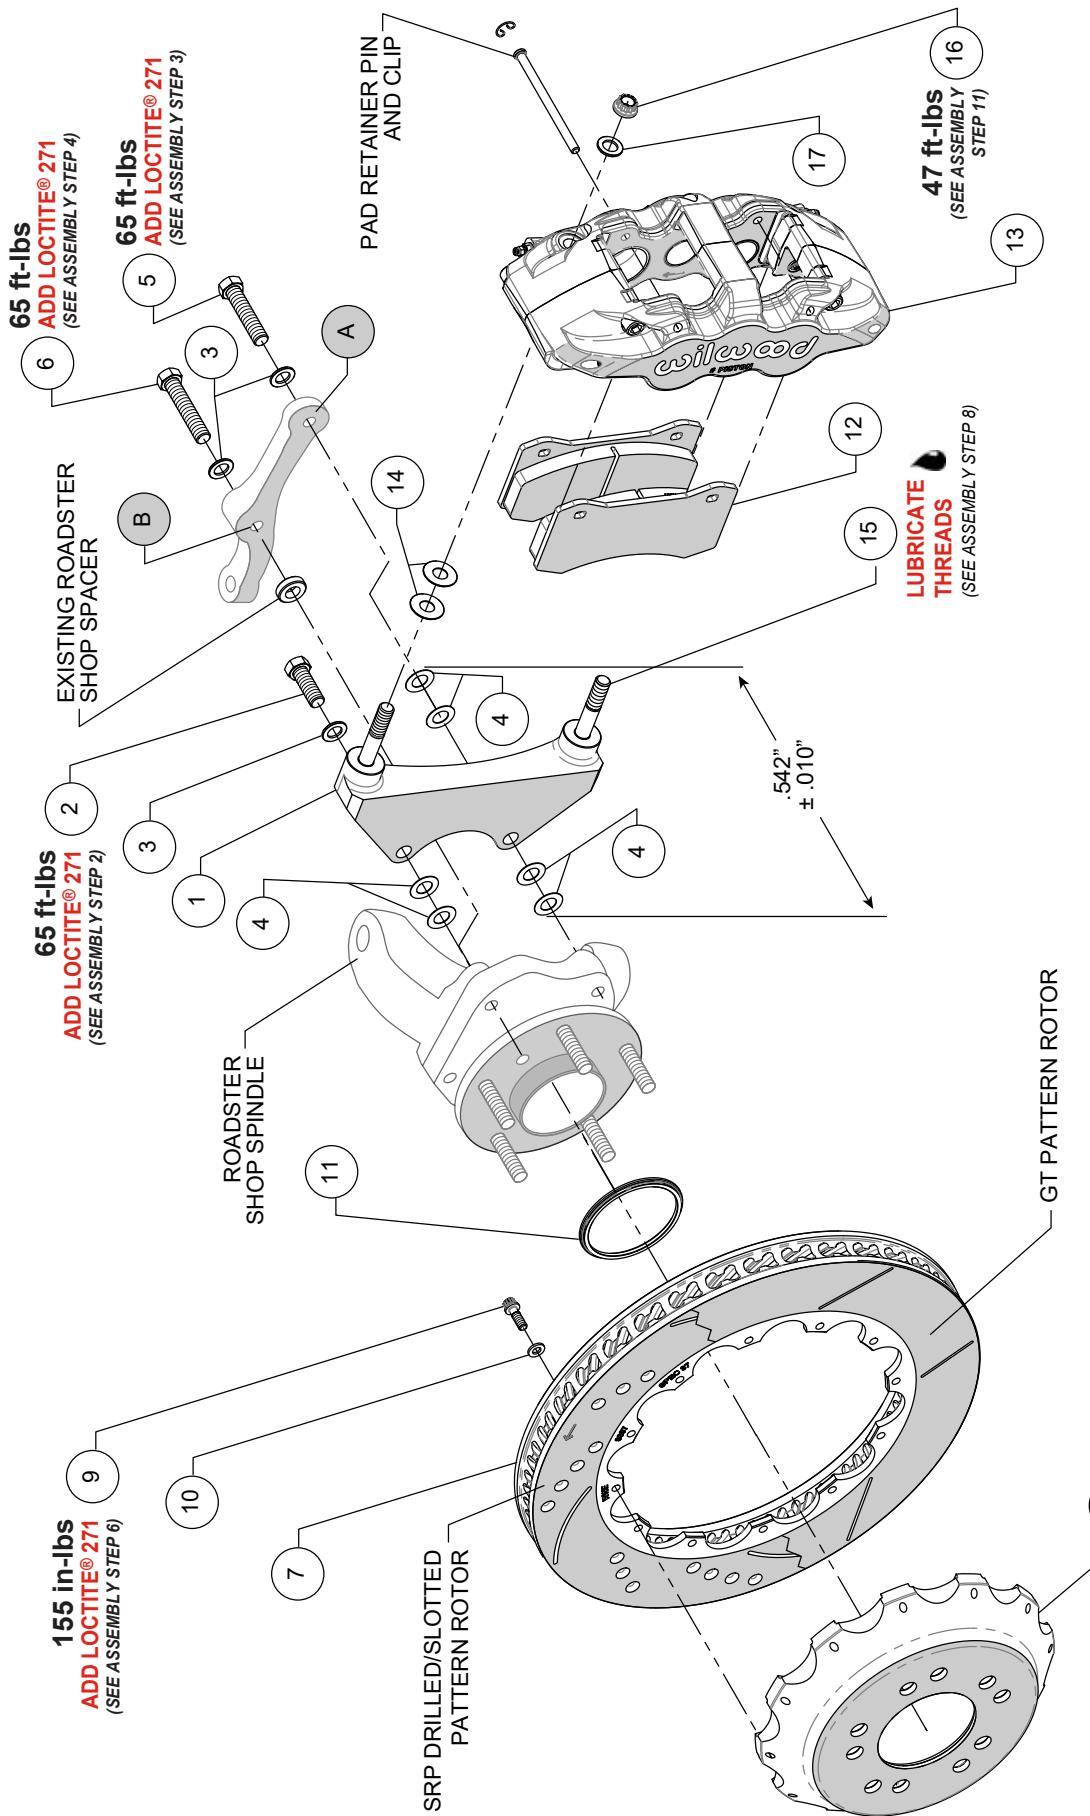
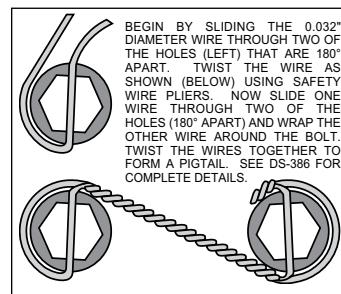

Figure 1. Typical Installation Configuration
Figure 2. Safety Wire Diagram
NOTE: Numbers in parenthesis refer to the parts list and Figure 1 on the preceding pages.
STEP 1 The caliper bracket (1) should initially be installed with clean, dry threads on the mounting bolts. Orient the bracket as shown in Figure 1 and Photo 1.
STEP 2 Install the bracket (1) at top upright hole using 1.25" long bolt (2) washer (3), and two .016" thick shims (4) between the bracket and upright, Figure 1.
STEP 3 Orient the steering arm, and identify the hole marked 'A', as shown in Figure 1. Install at bottom upright hole using 2.00" long bolt (5) and .063" thick washer (3), two .016" thick shims (4) between the bracket and steering arm, and another two .016" thick shims (4) between the bracket and upright, Figure 1. The bracket is located between the steering arm and upright. **NOTE:** The bracket and shim washers must add up to a total thickness of $.542" \pm .010"$.
STEP 4 Finish attaching the steering arm through the hole marked 'B', as shown in Figure 1. Install using 2.25" long bolt (6), washer (3), and .250" thick existing Roadster Shop spacer, Figure 1.
STEP 6 Orient the rotor (7) and the hat (8) as shown in Figure 1, and Photo 2. Attach rotor to hat using bolts (9) and washers (10). Apply red Loctite® 271 to the bolt threads and torque to value shown in Figure 1 using a criss-cross pattern. For an added measure of security, the bolts may be safety wired using standard 0.032 inch diameter stainless steel safety wire as shown in Figure 2. Refer to Wilwood's data sheet DS-386 (available at www.wilwood.com/Pdf/DataSheets/ds386.pdf) for complete safety wire installation instructions.
STEP 7 Install the rotor registration adapter (11) onto the register of the hub assembly with the smaller O.D. facing outward, Photo 3. Slide the rotor/hat assembly (7/8) onto the hub, Figure 1, Photo 4. **NOTE:** The hat must fit flush against the hub face or excessive rotor run out may result.
STEP 8 **NOTE:** This kit contains distinct right and left hand calipers that must be mounted in a specific direction, as described below. Lubricate the caliper mounting studs (15) with lightweight oil. Initially place two .035" thick shims (14) on each stud (15) between the caliper and the bracket, as shown in Figure 1 and Photo 5. Mount the caliper (13) onto the bracket (1) using lock nuts (16) and washers (17), Figure 1. Temporarily tighten the lock nuts. Ensure that the caliper is mounted so the largest pistons are at the rotor exit end of the caliper, in relation to the forward rotation of the rotor. View the rotor through the top opening of the caliper. The rotor should be centered in the caliper, Photo 6. If not, proceed as follows:
• For the lower bracket mount bolt, if a shim (4) was added between the bracket and upright, then a shim must be removed between the steering arm and bracket, such that the total thickness of bracket and shims remain equal to $.542 \pm .010$ ", Figure 1.
STEP 9 Once the caliper alignment is correct, remove the bracket mounting bolts one at a time, apply red *Loctite®* 271 to the threads, and torque to value shown in Figure 1.
STEP 10 Remove the caliper (13), then remove the two pad retaining pins from the caliper by carefully popping out the pin retaining clips and sliding out the pins, Figure 1. Insert the brake pads (12) into the caliper from the bottom, with the friction material facing the rotor as shown in Photo 7. Secure the brake pads in place with the pad retaining pins and clips, Figure 1.
STEP 11 Reinstall the caliper onto the caliper mounting bracket and temporarily tighten the lock nuts (16). Check that the top of the brake pad is flush with the outside diameter of the rotor, Photo 8. If not, adjust by adding or subtracting shims (14) between the caliper and the bracket. After the caliper pad height is set, torque the caliper lock nuts (16) to value shown in Figure 1